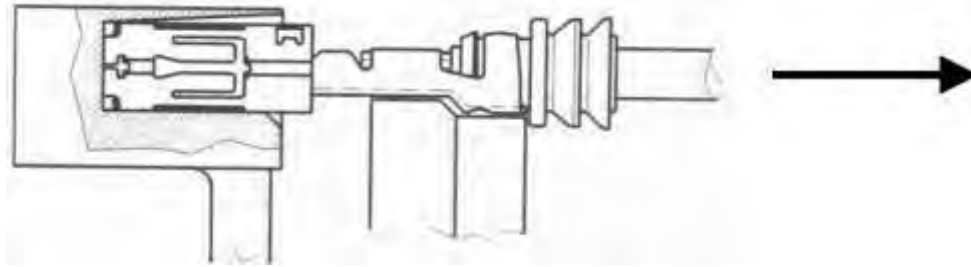

Figure 85
(4) Carefully pull out the crimped contact and attached wire (Figure 85).